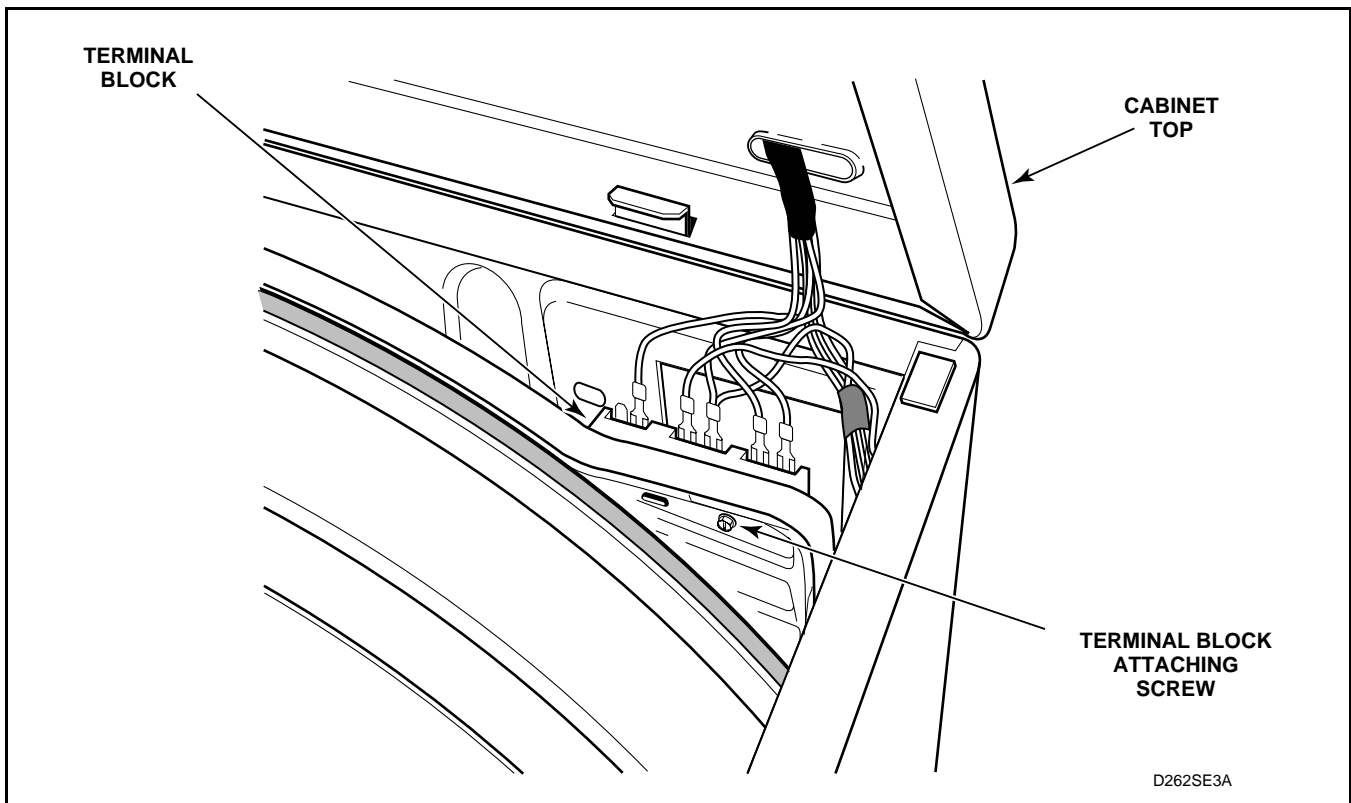

Figure 35
- (3.) Remove screw holding terminal block to rear bulkhead. See *Figure 35*.
- (8.) Remove screw holding terminal block to rear bulkhead. See *Figure 35*.